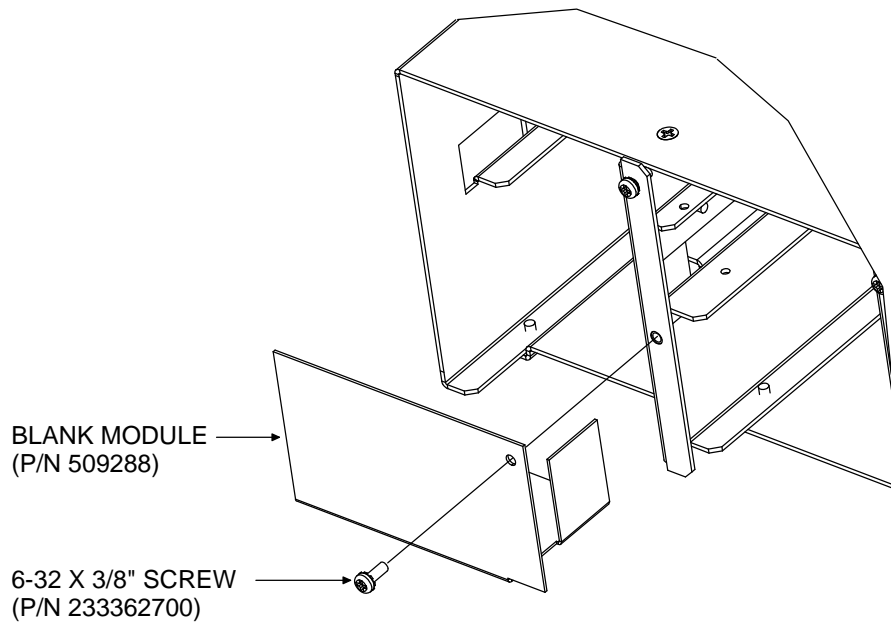

Figure 4
- 1) If not already done, remove blank modules from any mounting position into which a Converter Module will be installed. See Figure 4.